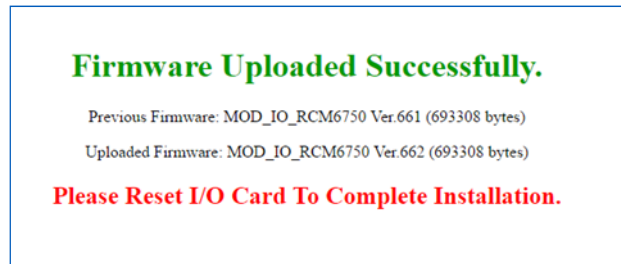

Figure 7-5: Upload Completed Message
7. The upload process will begin and the form will be informing about loading process (See Figure 3-15). Do not interrupt this process and wait until its completion with positive or negative result. The process may take up to 15 minutes. When completed, the form will notify about end of process. See **Figure 7-5**.